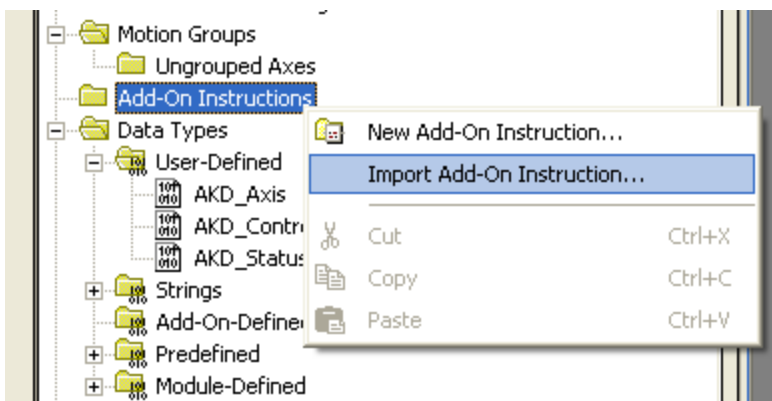

Figure 4-9: Importing Add-On Instructions
- Next, to import the add-on instructions, right click on the “Add-On Instructions” folder and select “Import Add-On Instruction...” (Figure 4-9: Importing Add-On Instructions)